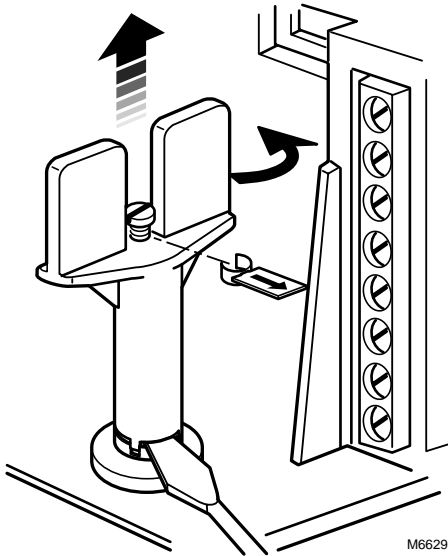

Fig. 5. Removing spring retaining clip and releasing manual spring handle.
Use a screwdriver to lift the handle. See Fig. 5.
7. Remove manual spring handle retaining clip and lift and release the handle. See Fig. 5. The easiest way to safely perform this operation is to:
- b. wedge a small, flat-bladed screwdriver under the manual spring handle at the point marked in Fig. 5 and pry up the handle.